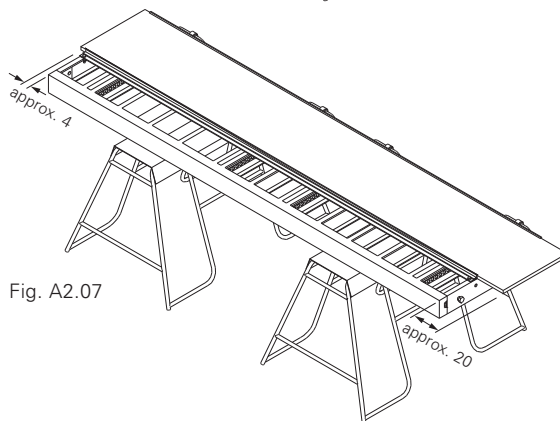

Fig. A2.07
- above max. 20 cm with crane suspension. (Fig. A2.07)